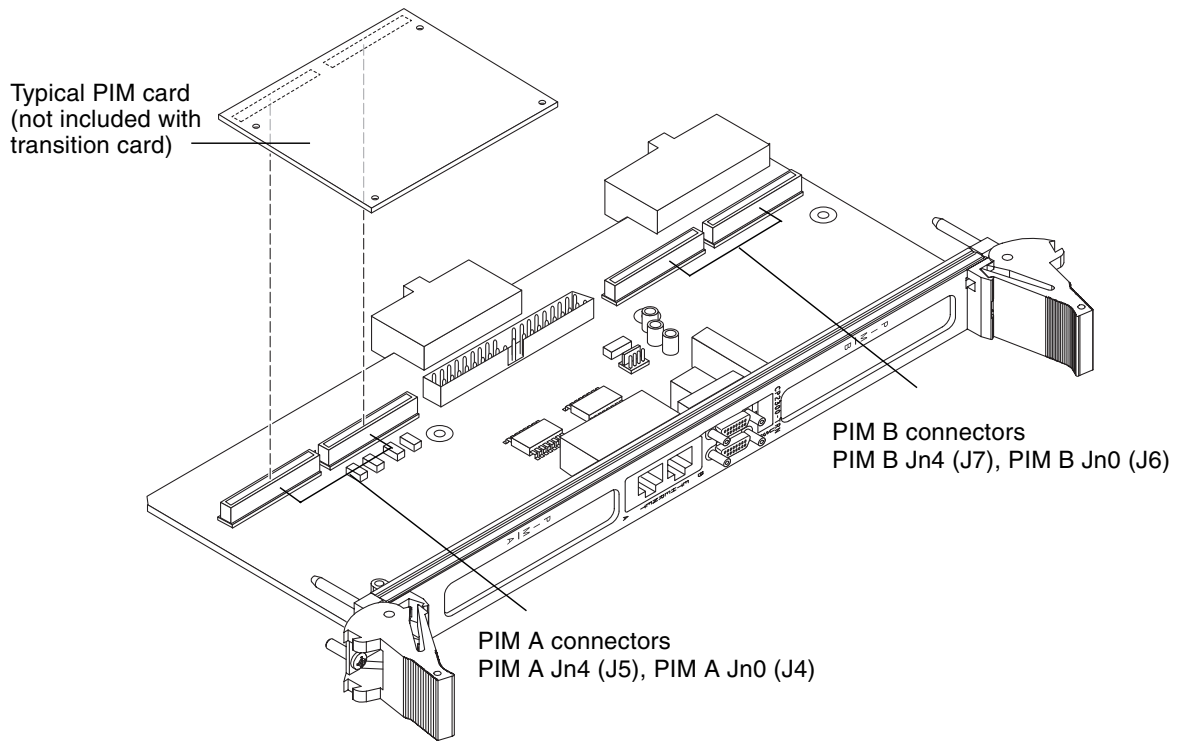
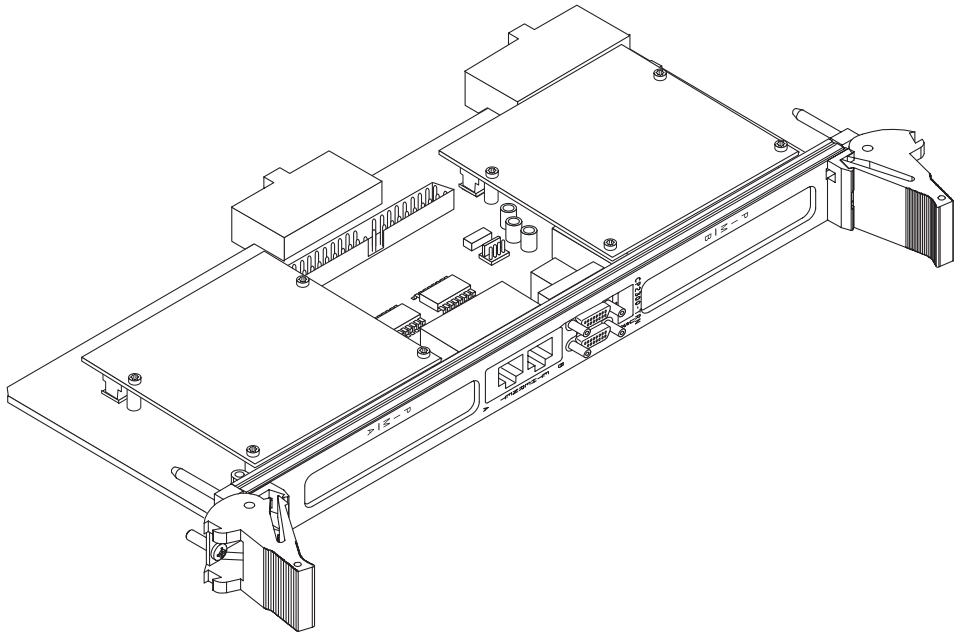

FIGURE 1-5 Typical View of a PIM Card and the PIM Connectors on the Netra CP2300 Transition Card
FIGURE 1-6 Typical View of PIM Cards When Installed on the Netra CP2300 Transition Card
- One 40-pin EIDE connector. (The EIDE connector is mutually exclusive with the PIM A slot Jn4 connector (labeled as J5 on the transition card) I/O pins 1-29. See FIGURE 1-5 for the location of this connector).
FIGURE 1-5 and FIGURE 1-6 show typical views of PIM cards when they are used with the Netra CP2300 transition card.
Note – The PIM cards shown in FIGURE 1-5 and FIGURE 1-6 are examples and are not included with the Netra CP2300 transition card shipment.